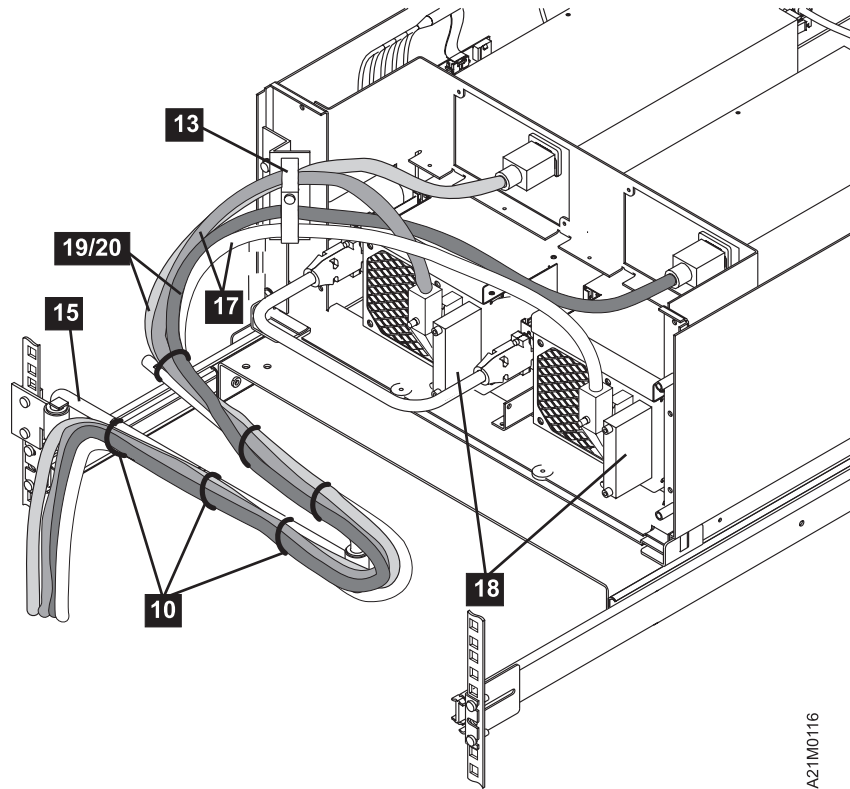

Figure 47. Model B22 (Dual-Drive Split-Host) Cable Routing
- \_\_\_ Step 5. Install the long SCSI host cable **17** into drive 1. Insert the right-angled plug into the left-most 68-pin socket (see Figure 47) so the cable is looped upward. Next, install the second long SCSI host cable **17** into the left-most 68-pin socket of drive 2. Plug the right-angled plug into the left 68-pin socket (see Figure 47) so the cable is looped upward. Route it to the lower wing of the clamp (loop the cable so it does not extend above the top of the 3570 you are installing). With the power cord **19/20** and the SCSI cable **17** from drive 1 captured in the upper wing of the clamp, and the power cord **19/20** and the SCSI cable **17** from drive 2 captured in the lower wing of the clamp, tighten the screw.